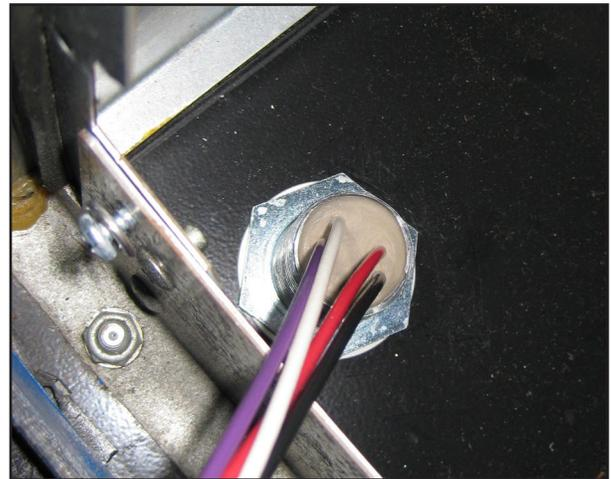

Figure 4: Potted Nipple Installed
20. Find power harness kit part number 600-0165. Find the Wayne power harness and ground wire with ring terminal as shown in figure 4 of the Parts List. Remove tie-wraps and uncoil.